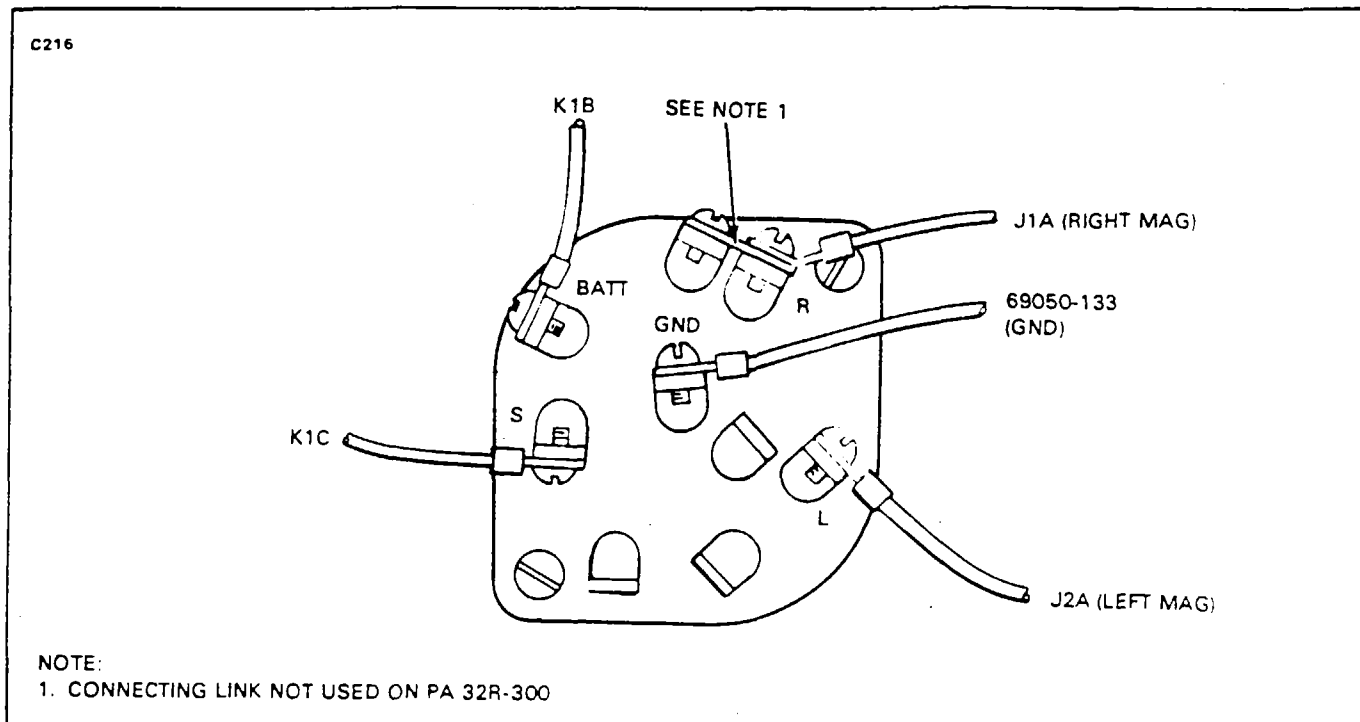

Figure 10-32a. Ignition Switch
10-78. INSTALLATION OF IGNITION SWITCH. (Refer to Figure 10-32a.)
- a. Attach wires to switch as shown in Figure 10-32a.